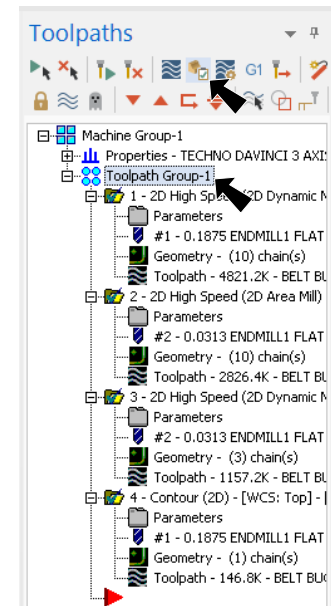

Fig. 81
Step 1. Click **Toolpath Group-1** in the Toolpaths Manager to select **all 4** toolpaths, **Fig. 81**.
Step 2. Click **Verify**  in the Toolpaths Manager, **Fig. 81**.
Step 3. Click **Play**  (R) in VCR bar.